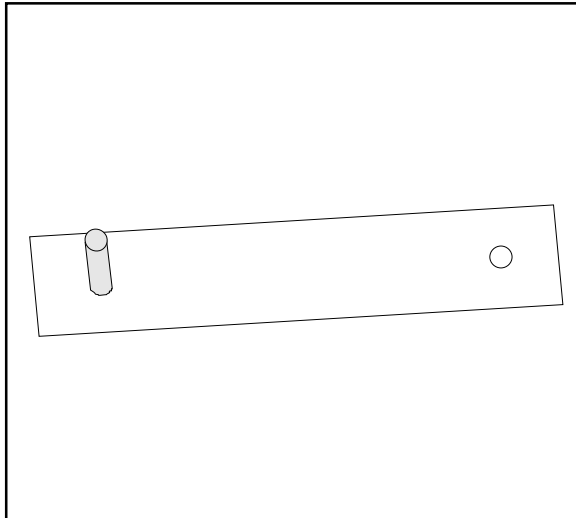

Figure 2. Compass Tool
3. Remove the compass tool from the parts bag (refer to Figure 2). Press the stud of the compass tool into the hole in the ceiling. Insert a pencil in the hole in the other end of the compass and mark a circle on the ceiling.
4. Remove the compass tool from the parts bag (refer to Figure 2). Press the stud of the compass tool into the hole in the ceiling. Insert a pencil in the hole in the other end of the compass and mark a circle on the ceiling.